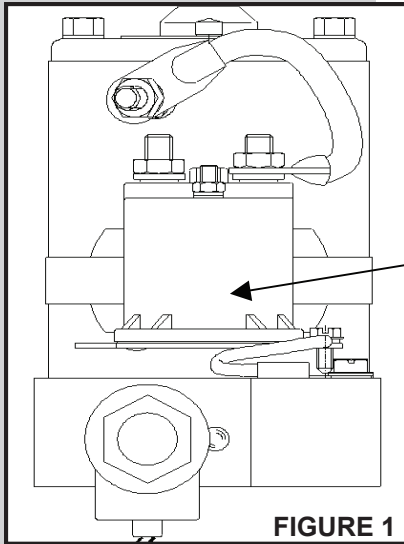

FIGURE 1
1. At the leveling system pump assembly, find the starter solenoid. It will be a 3 or 4 post solenoid looking similar to the one shown in Figure 1.